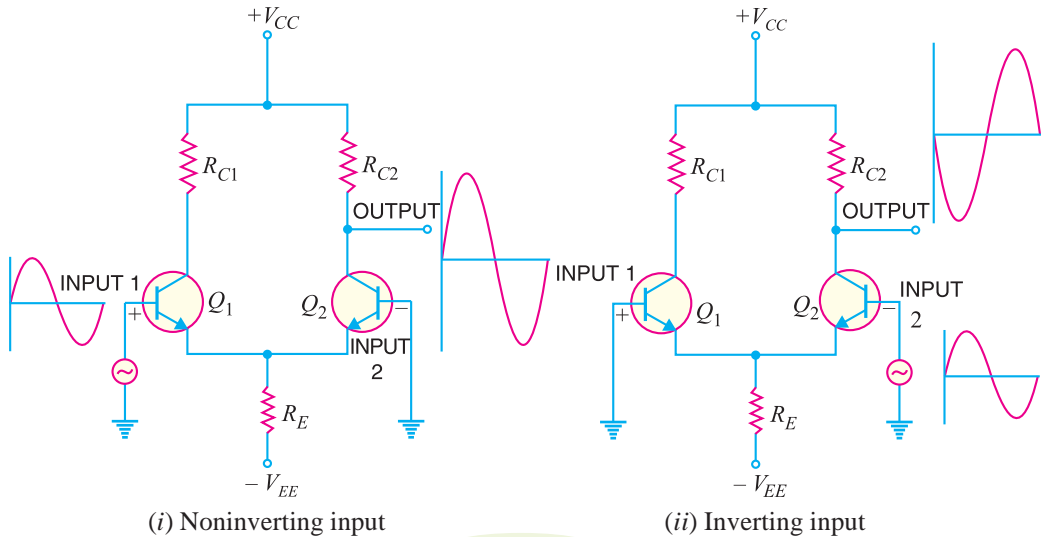

Fig. 25.7
- (b) When only one output terminal is available, the phase of the output of single-ended input DA depends on which input receives the input signal. This is illustrated in Fig. 25.7.
When signal applied to the input of DA produces no phase shift in the output, it is called *non-inverting input* [See Fig. 25.7 (i)]. In other words, for noninverting input, the output signal is in phase with the input signal. When the signal applied to the input of DA produces 180° phase shift, it is called *inverting input* [See Fig. 25.7 (ii)]. In other words, for inverting input, the output signal is 180° out of phase with the input signal. Since inverting input provides 180° phase shift, it is often identified with $-$ sign. The noninverting input is then represented by $+*$ sign. It may be noted that terms noninverting input and inverting input are meaningful when only one output terminal of DA is available.
* Note that in Fig. 25.7, the noninverting input terminal is given the $+ve$ sign while the inverting input terminal is given the $-ve$ sign.